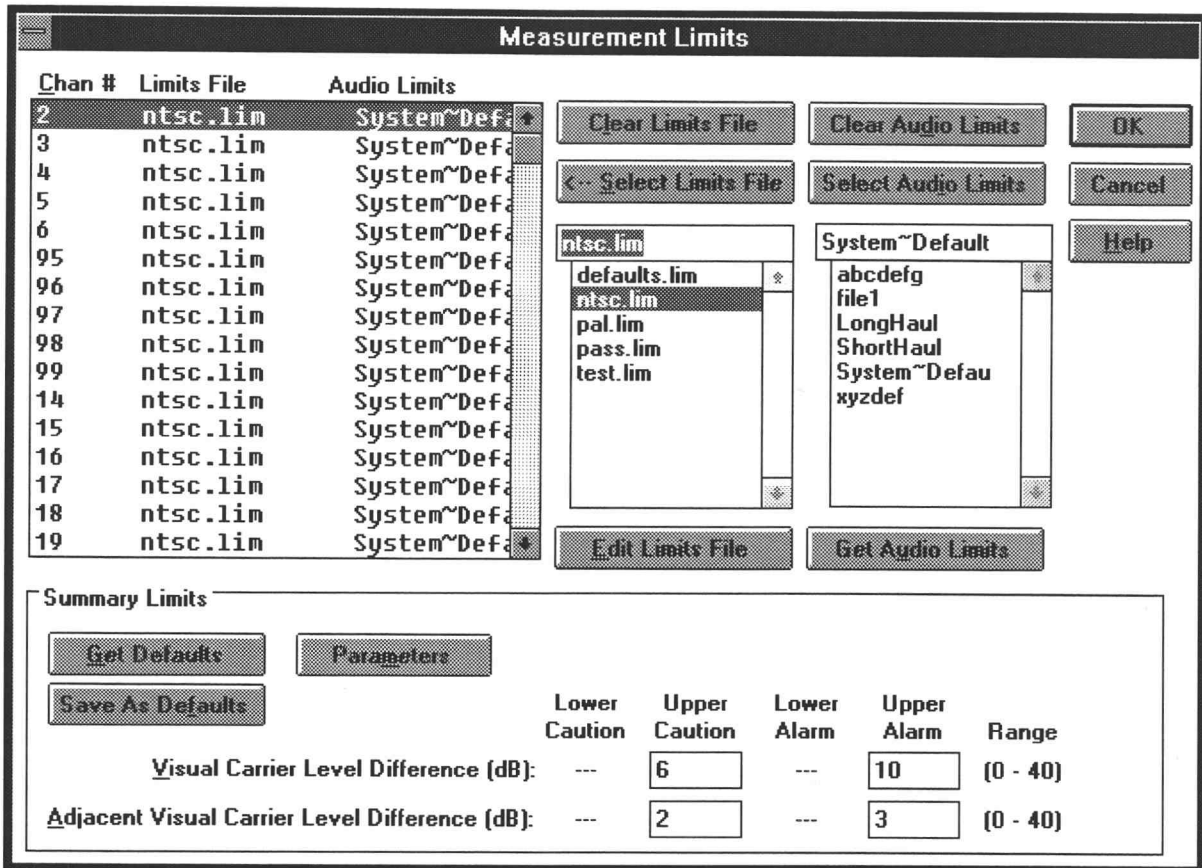

Figure 6-19. The Measurement Limits dialog box.
1. Choose the Limits command button on the Button Bar; or, from the Configure menu, choose Measurement Limits. This displays the Measurement Limits dialog box, as shown in Figure 6-19.